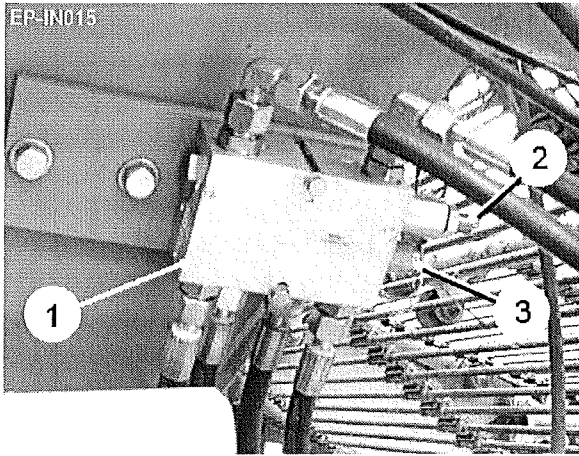

Fig 30
The two rear axle steering rams are connected via a link circuit which ensures both rams actuate by equal amounts in opposite directions when turning. The link circuit diverts the oil within the annular section of the extending ram through the bleed valve (item 1, fig 30), into the annular section of the ram opposite thus retracting that ram by the same amount. The circuit must contain the exact volume of oil necessary for the rams, and thus the wheels, to be set correctly. If oil is lost from the link circuit through leakage or during maintenance work etc., the wheels will no longer track correctly and the circuit volume will need to be reset. This can be done by following the procedure outlined below.
2. Open the bleed screw (item 2, fig 30) and operate LH steering again to fully extend the LH ram. The RH ram will now fully retract as additional oil enters the link circuit.
3. With the RH ram fully retracted, close the bleed screw (item 2, fig 30).
Too much oil in the link circuit will cause the wheels to track inwards toward each other at the front. The excess oil can be released by means of the port (item 3, fig 30). The procedure outlined above should then be used to reset the correct volume.